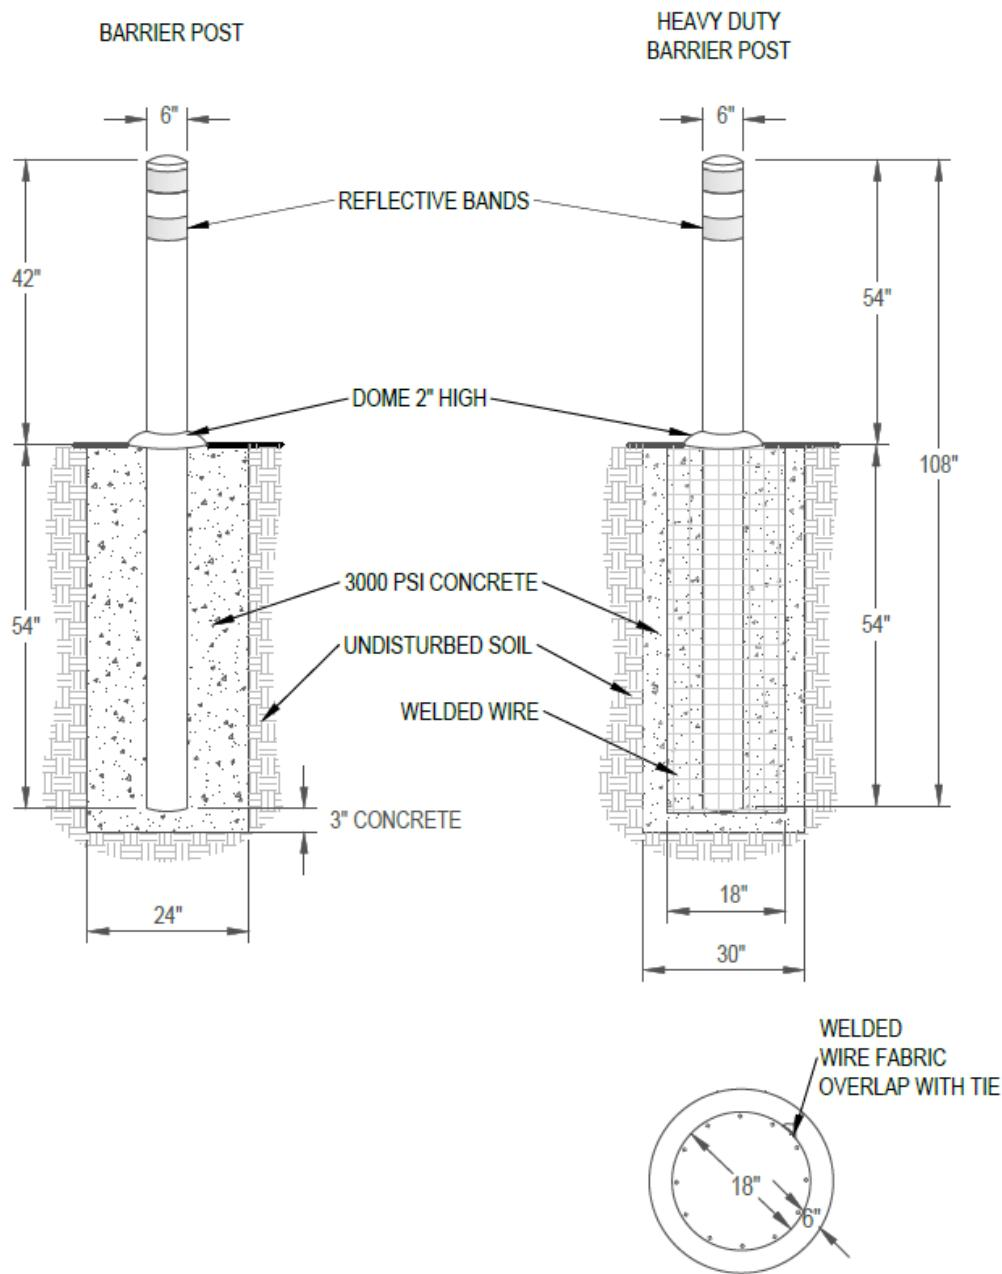

Figure 40. Barrier Post Dimensions and Installation Details (STD-D-3290)
Figure 40 shows barrier post dimensions and installation details.
- Paint all barrier posts safety yellow and apply two 3"-wide reflective bands near the top of each post, as shown in Figure 40.